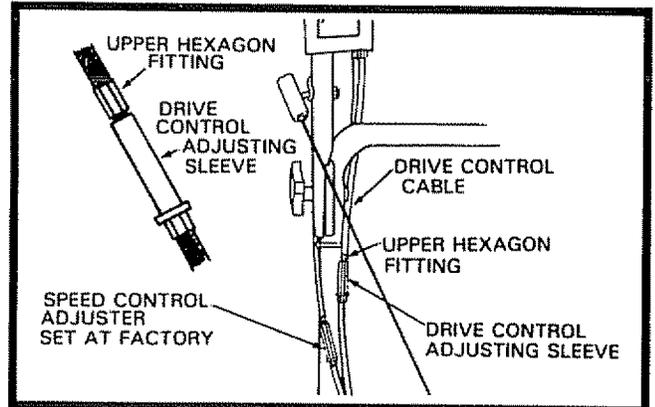

FIG. 22
- To make the Drive Control adjustment, hold the Upper Hexagon Fitting and turn the Adjusting Sleeve clockwise from operator position (See Fig. 22).